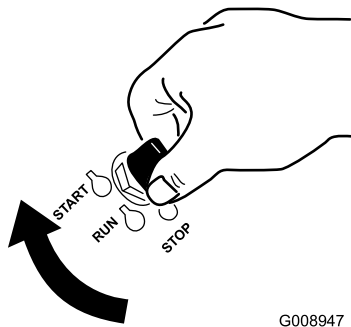

Figure 17
1. Turn the ignition key to the Start position (Figure 17). When the engine starts, release the key.
- Turn the ignition key to the Start position (Figure 17). When the engine starts, release the key.